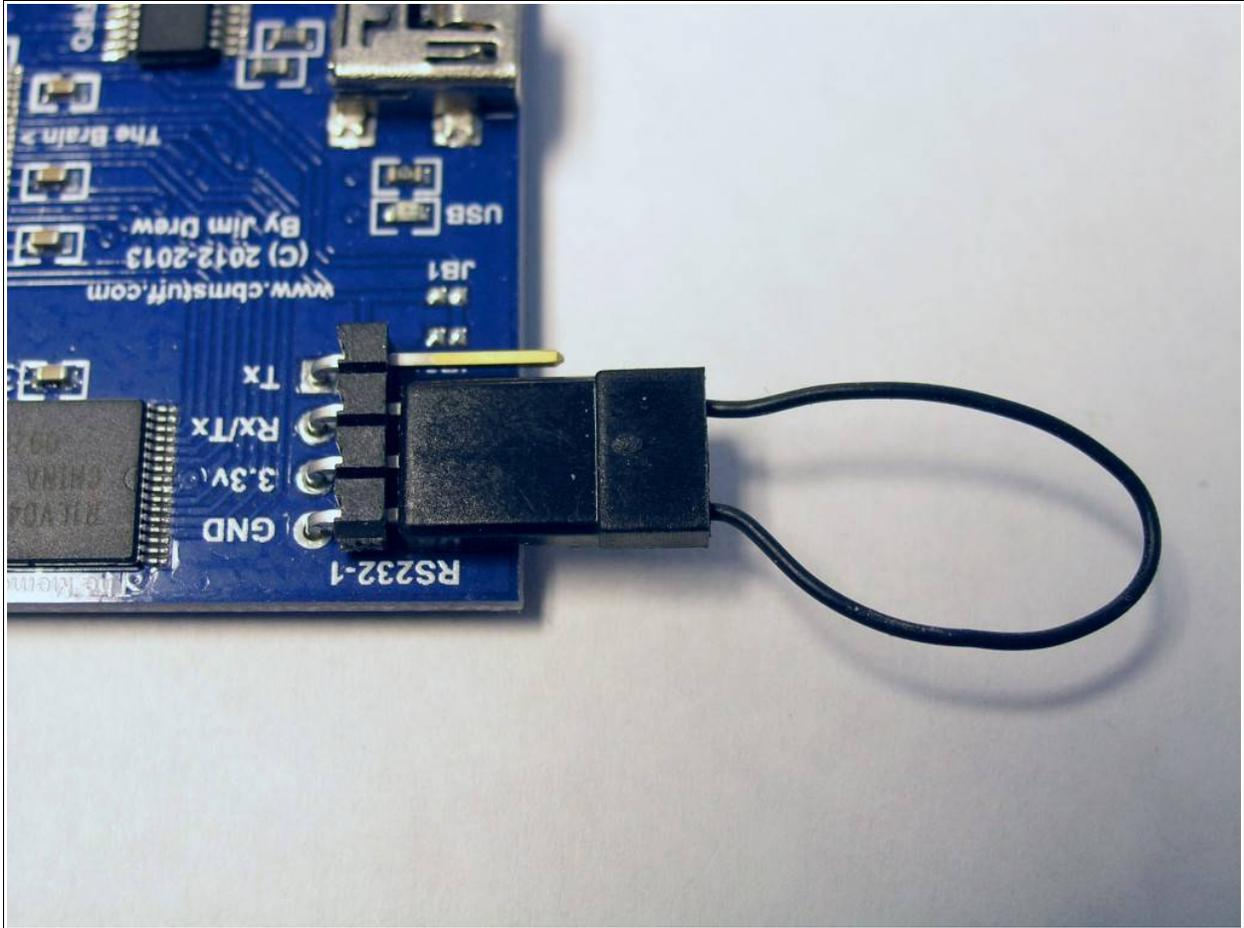

Figure 11 – Flash jumper installed on SuperCard Pro board
- Insert the flash jumper so that GND and Rx/Tx on port RS232-1 is jumpered (see figure 11 for details).